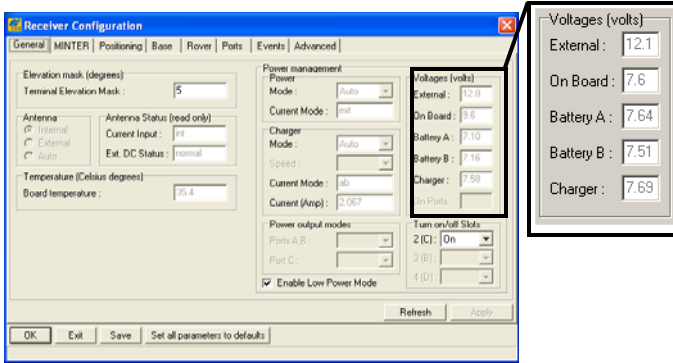

Figure 2-10. View Voltages Information
6. View the *Voltages* information (Figure 2-10 on page 2-12).